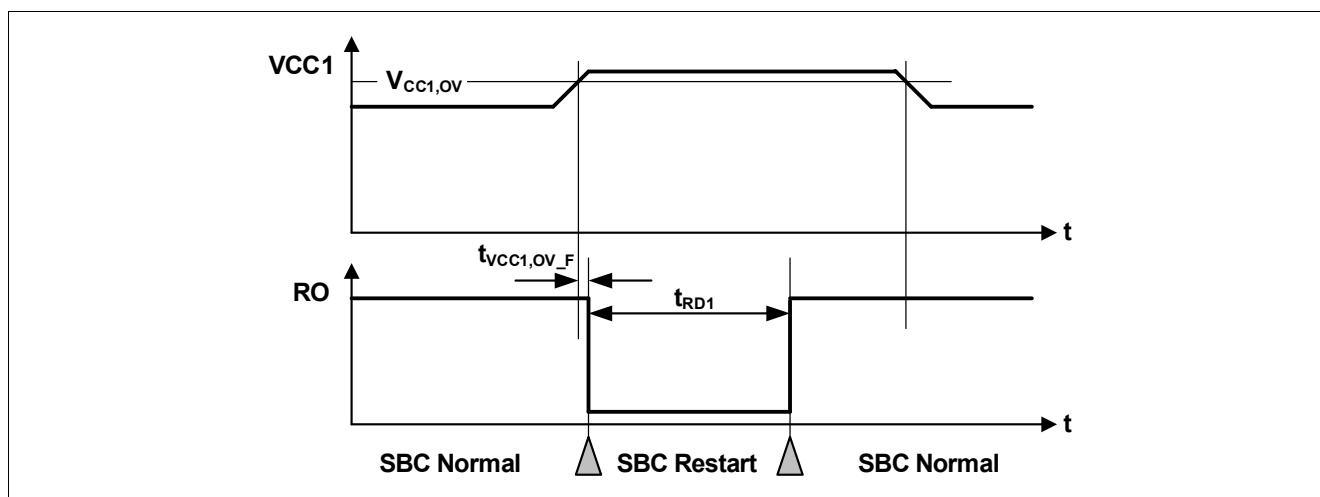

Figure 58 VCC1 Overvoltage Timing Diagram
- If the bit **VCC1\_OV\_RST** is set and **CFGP** = '1', then SBC Restart Mode is entered. The FOx outputs are activated. After the reset delay time ( $t_{RD1}$ ), the SBC Restart Mode is left and SBC Normal Mode is resumed even if the VCC1 overvoltage event is still present (see also **Figure 58**). The **VCC1\_OV\_RST** bit is cleared automatically;